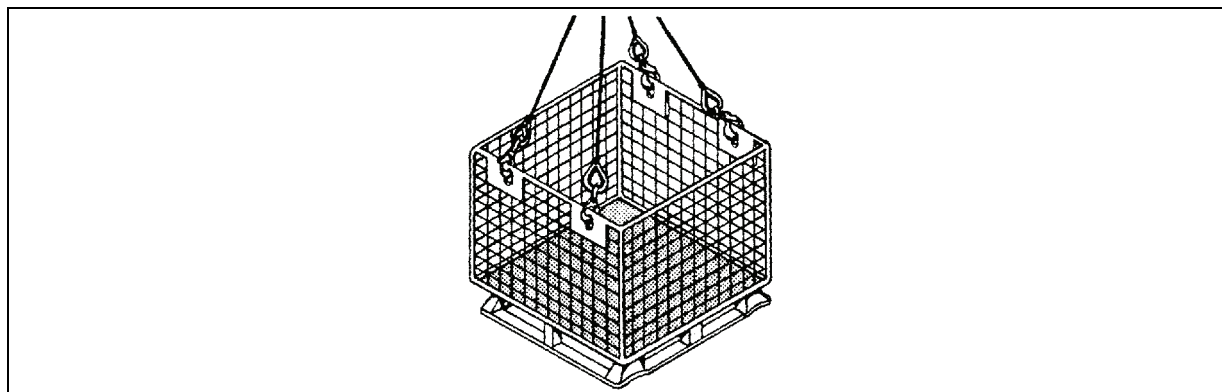

Figure 9-2. Hoisting Sling Hooked to Cargotainer
- **Cargotainers.** A cargotainer is a pallet with wire mesh sides that fold down for compact storage (Figure 9-2). The cargotainer is ideal for transferring loose and odd-shaped items.
- **Cargotainer Loading (Figure 9-2).** When preparing cargotainer loads, remember the following: